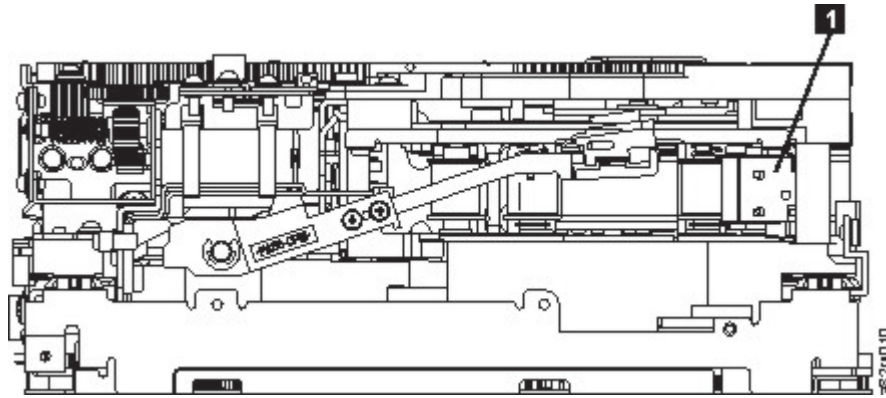

Figure 121. Leader Block Assembly (LBA)
9. Rotate the threader motor worm gear (**4** in Figure 120) to turn the threader mechanism gear (**6** in Figure 120) counterclockwise. This action moves the LBA out of the cartridge and past the read/write head. Stop this rotation when the LBA is near the tape guide roller nearest the rear of the drive that is shown as **1** Figure 121 on page 189.